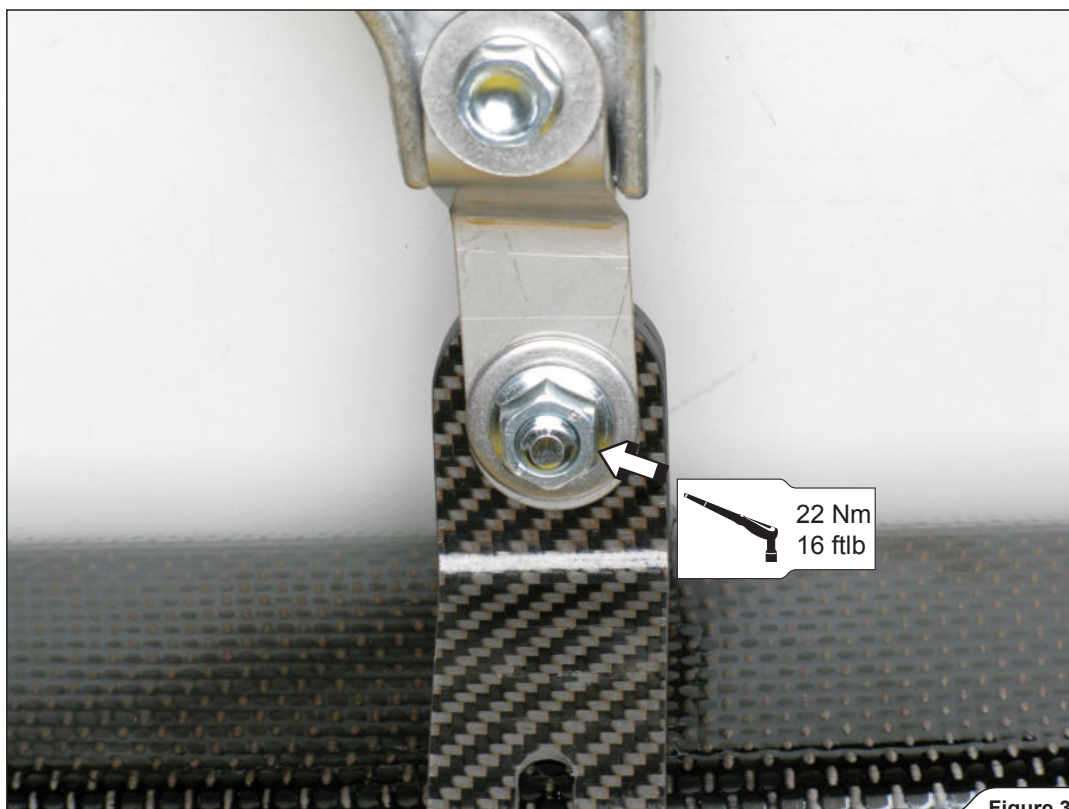

Figure 31
14. Correctly position the carbon-fiber clamp and slide it onto the muffler - bear in mind the **left offset** of the carbon fiber clamp viewed from the rear (Figure 31).